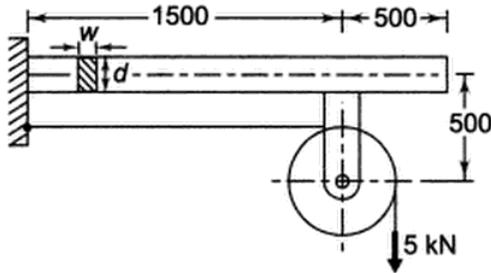

Figure.2a
2. a) The cantilever beam of rectangular cross section is used to support a pulley as shown in the Figure.2a . The tension in the wire rope is 5 kN. The beam is made of cast iron FG 200 (ultimate tensile strength =200 N/mm2) and the factor of safety is 2.5. The ratio of depth to width of the cross section is 2. Determine the dimensions of the cross section of the beam. 8 M